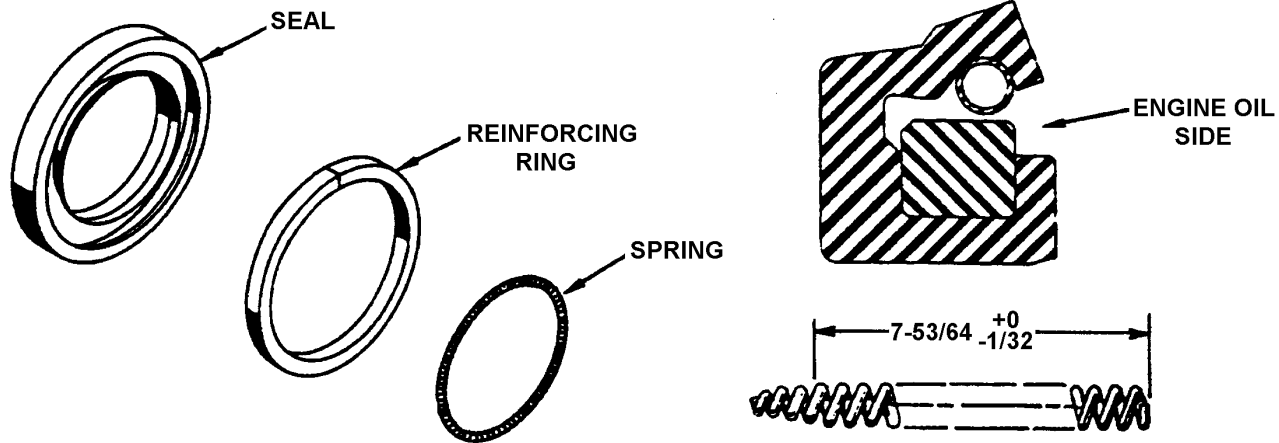

Figure 21-7
1. Use the specified oil seal assembly only. Check the spring length. It should be $7 - 53/64^{+0} - 1/32$ in length. See Figure 21-7, "Crankshaft Oil Seal."